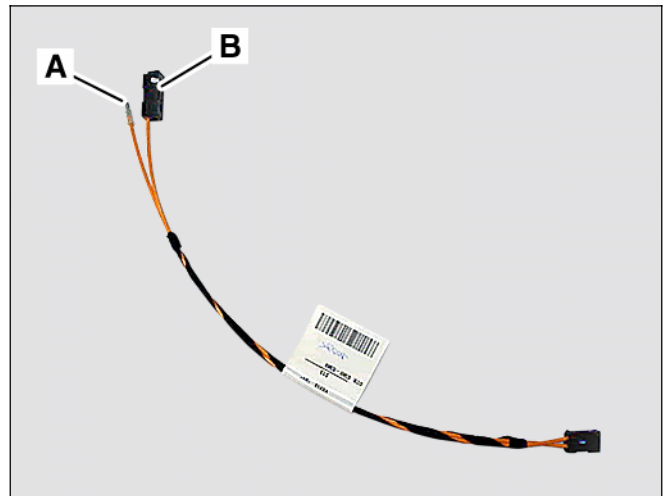
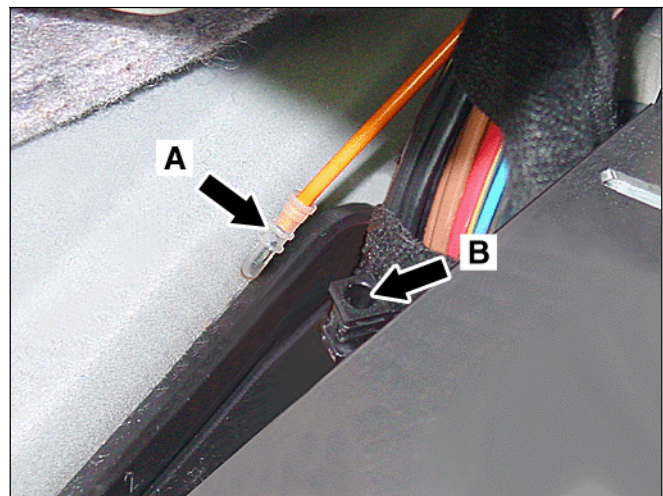

Figure 7
Figure 9
1. Find the MOST adapter harness in the installation kit (Figure 7).
3. Carefully remove the clear fiber end (A, Figure 9) going into the top of the coupler (B, Figure 9).
4. Insert the exposed clear fiber end (A, Figure 7) of the adapter harness into the vacant chamber (B, Figure 9) of the coupler behind the Car Navigation/CD Changer bracket assembly.
5. Insert the exposed clear fiber end (A, Figure 9) removed from the MOST fiber optic coupling behind the Car Navigation/CD Changer bracket assembly into the coupler (B, Figure 7) of the adapter harness.